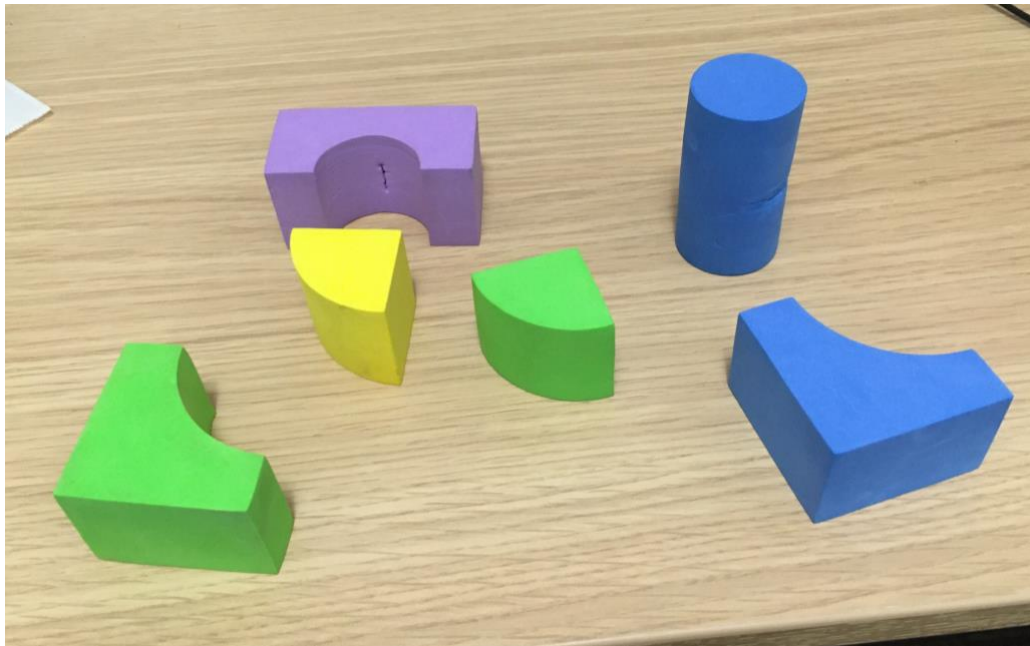
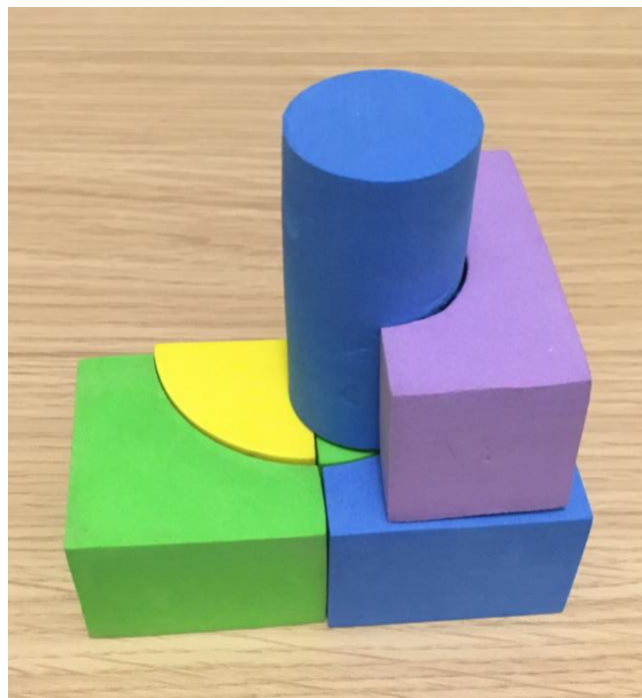

Figure 27: Selection of Blocks
Figure 28: Final Block Form
Task 6: Create a program that constructs the structure shown in Figure 28 from the resource blocks shown in Figure 27. You should begin by ensuring that the robot joints are correctly mastered. Then
- 2. Setup the environment so that you have a record of the starting block positions with orientations as in Figure 27. This is important as you do not have sensing methodology to change robot operation during the run, so your code is pre-defined to the positions. You could use a piece of paper orientated to the robot in order to define definite positions.**
- 3. Manipulate each block in turn so that is in the correct configuration (Figure 28).**
- 1. In the simple positions shown in Figure 27**